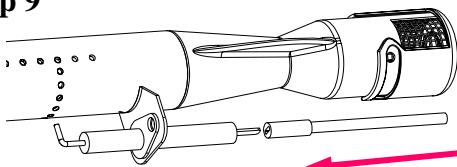

Fig. 9A
Procedure: Attached to each Burner Tube is an Ignition Electrode with a pin at the end of the Electrode. You need to attach each of the (3) ignition wires that you had pushed through the openings onto the pin end of the Electrode per Fig. 9A.